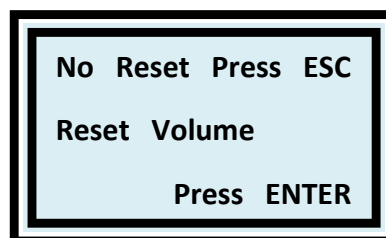

Fig.13 Reset Volume meter.
2.1 Press "ESC" Button back to main menu then Press "Down " button display will show as Fig.13